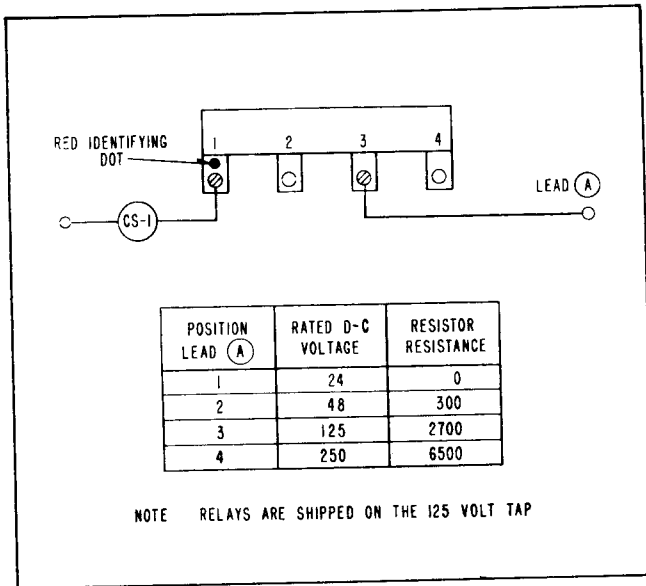

Fig. 6. Selection of Proper Voltage Tap for Auxiliary Switch (CS-1) Operation.
No setting required on the CS-1 unit except for the selection of the required 24, 48, 125 or 250 voltage on the tapped resistor. This connection can be made by referring to Fig. 6.
Connect lead (A) to proper terminal per Fig. 6. Block directional unit (D) and I contacts close and energize trip circuit with rated voltage. Contacts of auxiliary switch (CS-1) should make as indicated by a neon lamp in the contact circuit.